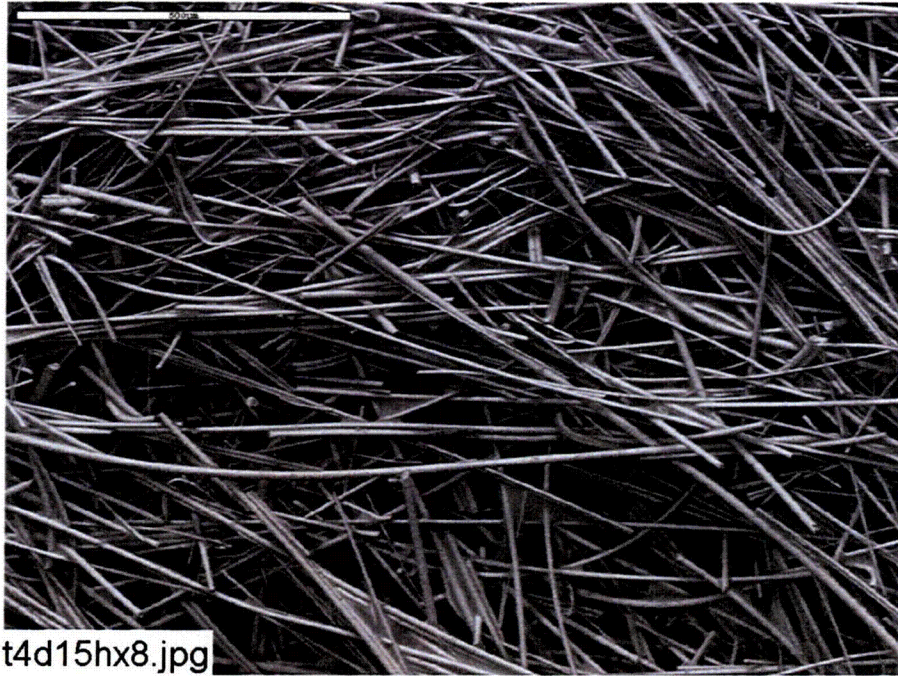

Figure B2-1. Environmental SEM image magnified 100 times for a Test #4, Day-15 exterior high-flow fiberglass sample. (t4d15hx8.jpg)
- Figure B2-1. Environmental SEM image magnified 100 times for a Test #4, Day-15 exterior high-flow fiberglass sample. (t4d15hx8.jpg)..... B2-4